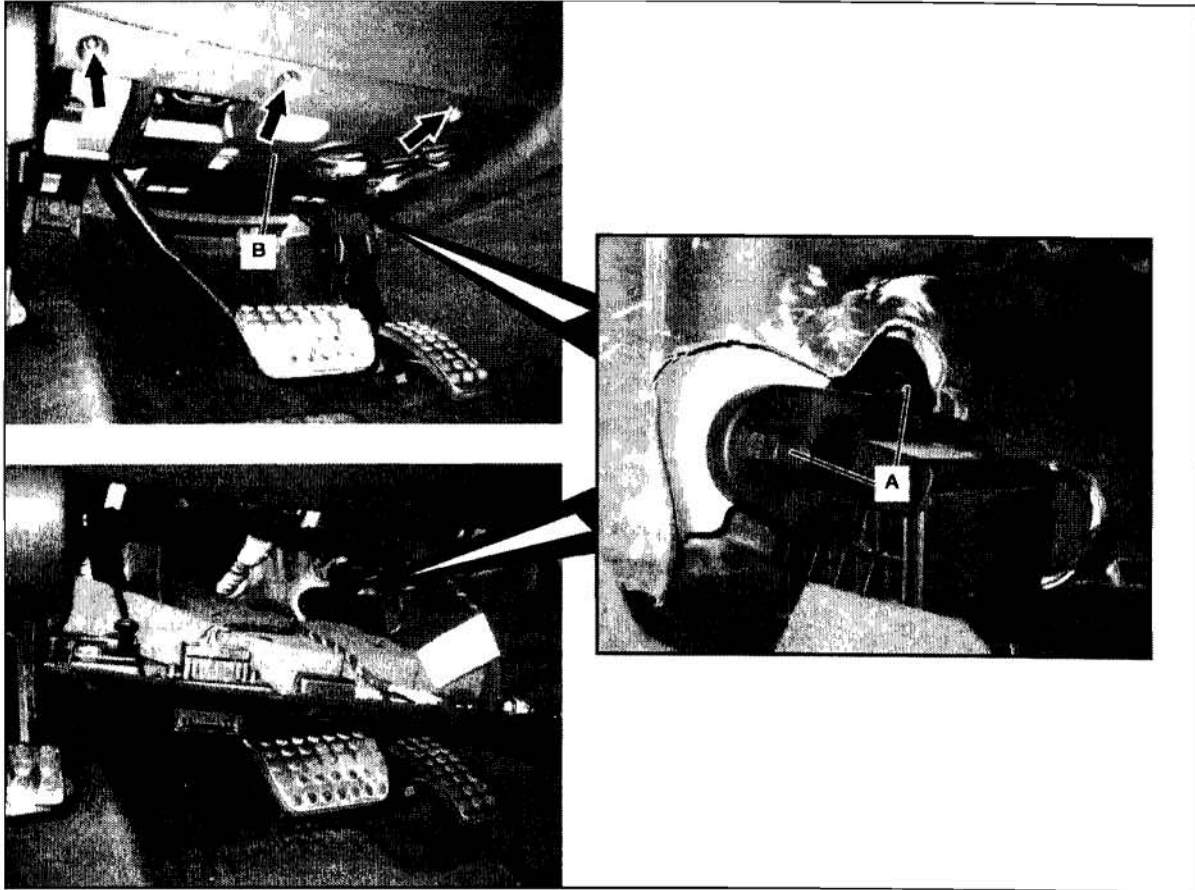

Figure 1
2. Visually check if accelerator pedal nuts (A, Figure 1) have been installed.
3. Lower cover below instrument panel (B).
4. Install nut(s) (A, Figure 1; part # A 203 301 00 72) according to WIS document AR30.12-P-1321GZ.